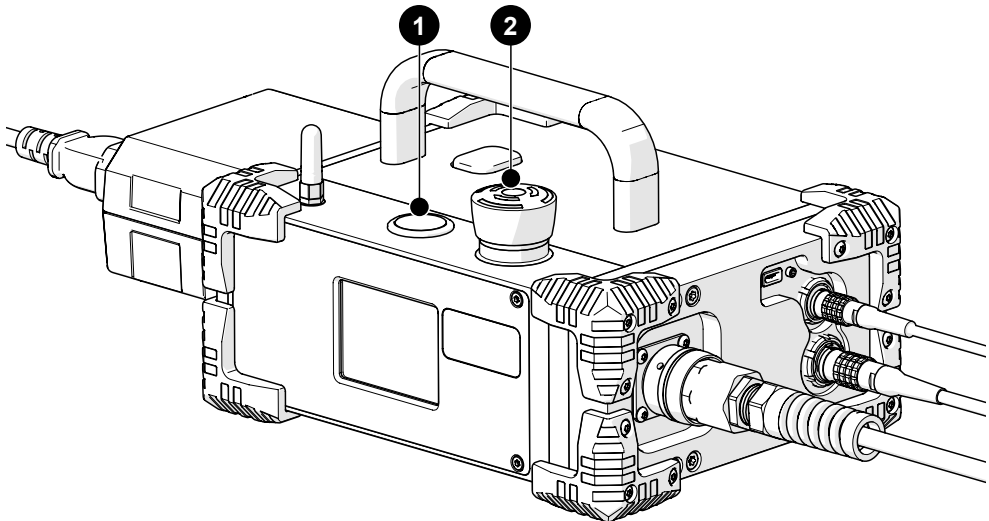

Fig. 175 - System controller
3. Locate the **2** red off push-button on the system controller. Rotate this button clockwise to unlatch (Fig. 175).
4. The **1** power button (Fig. 175) on the system controller energizes the system.